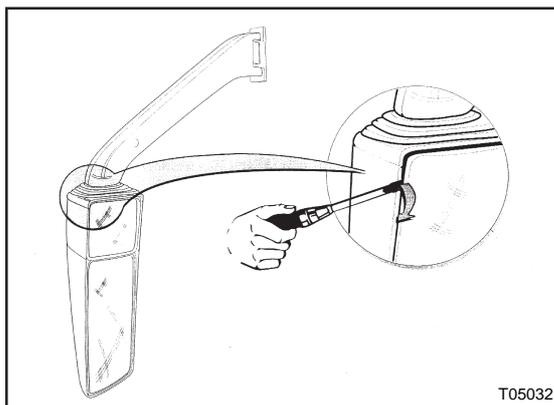

Figure 7: Convex-type mirror glass removal
4. Slip a screwdriver into the gap between the mirror head casing and the mirror glass assembly (see Figure 7).